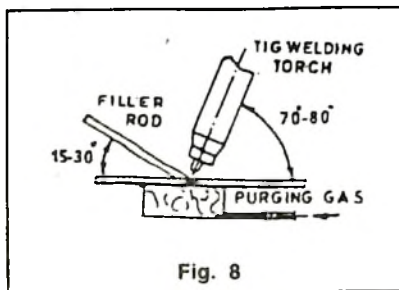

Fig. 8
5. Purging the bottom side with either Argon or Nitrogen gas. This protects back of the weld from injurious effects of air and gives a weld surface which is resistant to acids and the like. (Ref : Fig.8)
- The angle of torch and filler material to the work piece when downhand welding a butt joint are shown in Fig. 8.